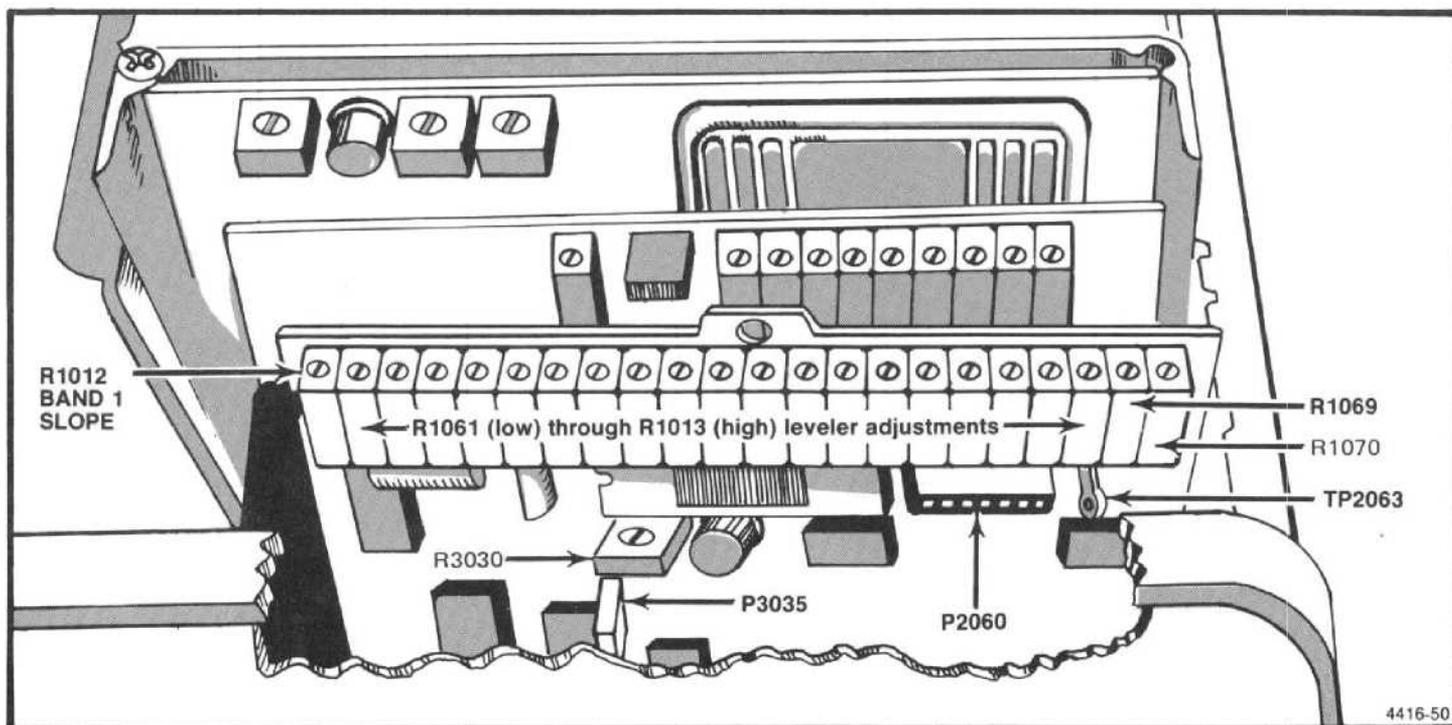

Figure 5-29. Adjustments and test points on the Video Processor.
h. Adjust band 1 Slope R1012, on the Video Processor board (Figure 5-29), to set the top of the signal to the same amplitude level noted above, in part e.
j. On the Video Processor board pull the Leveler Disable plug P3035 (Figure 5-29).
t. Unplug P2060 (Figure 5-29) and move it from Normal to Invert mode position (one pin to the left). Replace Leveler Disable plug P3035.
u. Start with R1061 and adjust the leveling potentiometers sequentially, from R1061 through R1013, so the contour of the baseline is an average of the SAVE A display. In the process use Horiz adjust R1069 (Figure 5-29) to shift the baseline to the right or left so the baseline aligns with the average contour of SAVE A display.